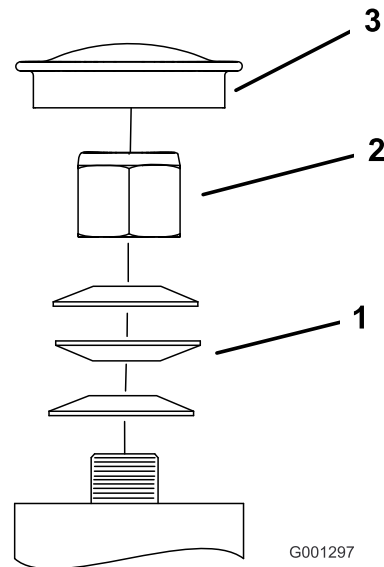

Figure 61
3. Remove the dust cap from caster and tighten the locknut (Figure 61).
4. Tighten the locknut until the spring washers are flat, and then back off a 1/4 turn to properly set the preload on the bearings (Figure 61).
Important: Make sure that the spring washers are installed correctly as shown in Figure 61.
5. Install the dust cap (Figure 61).